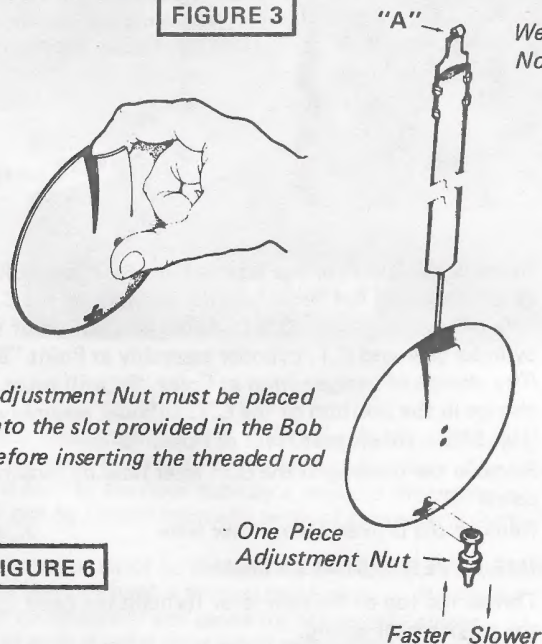

FIGURE 6
2. Install the suspension arm assembly (No. 38) and the pendulum with the brass bob attached. Insure that the metal tab pressure against the pendulum stick does not prevent the bob from sliding up, or down the stick for time adjustment. See Fig. 6 and Fig. 12 for detail.